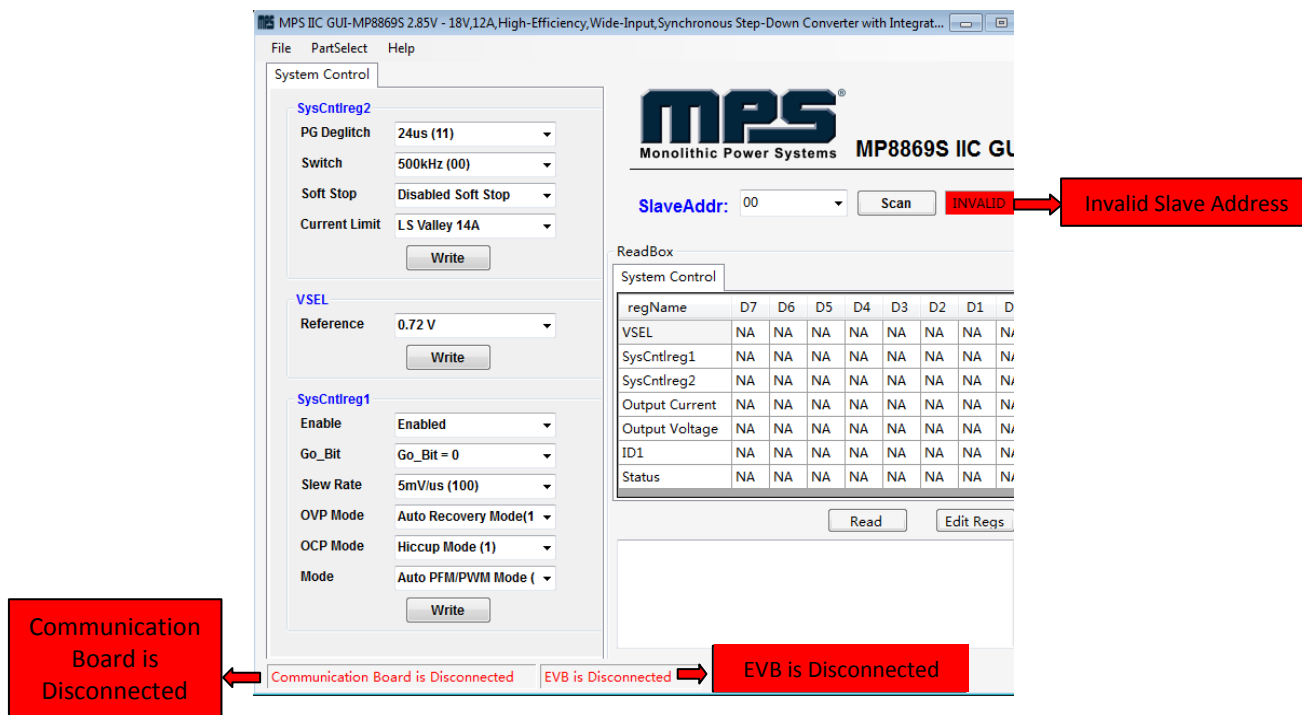

Figure 8: Warning Indicates Unsuccessful Connection – Evaluation Board not Connected
- “EVB is disconnected!” This means that the evaluation board is not connected (see Figure 8).